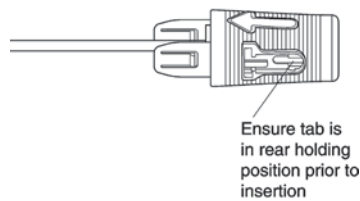
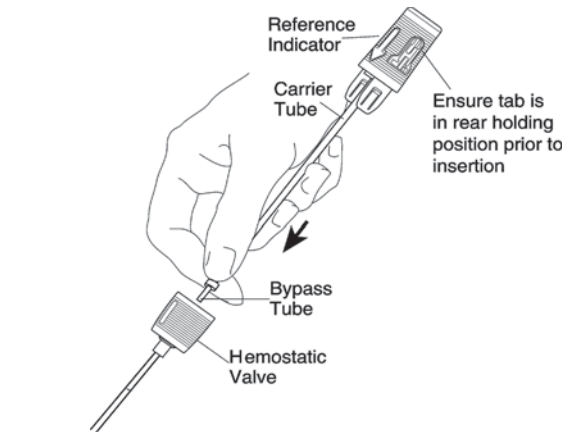

Fig. 6
Fig. 7
1. Confirm that the device sleeve has remained in the rear holding position, (Figure 6). Carefully grasp the Angio-Seal device at the bypass tube. Cradle the Angio-Seal™ carrier tube in the palm of the hand and, with the reference indicator facing up, slowly insert the bypass tube and carrier tube into the insertion sheath hemostatic valve (Figure 7).